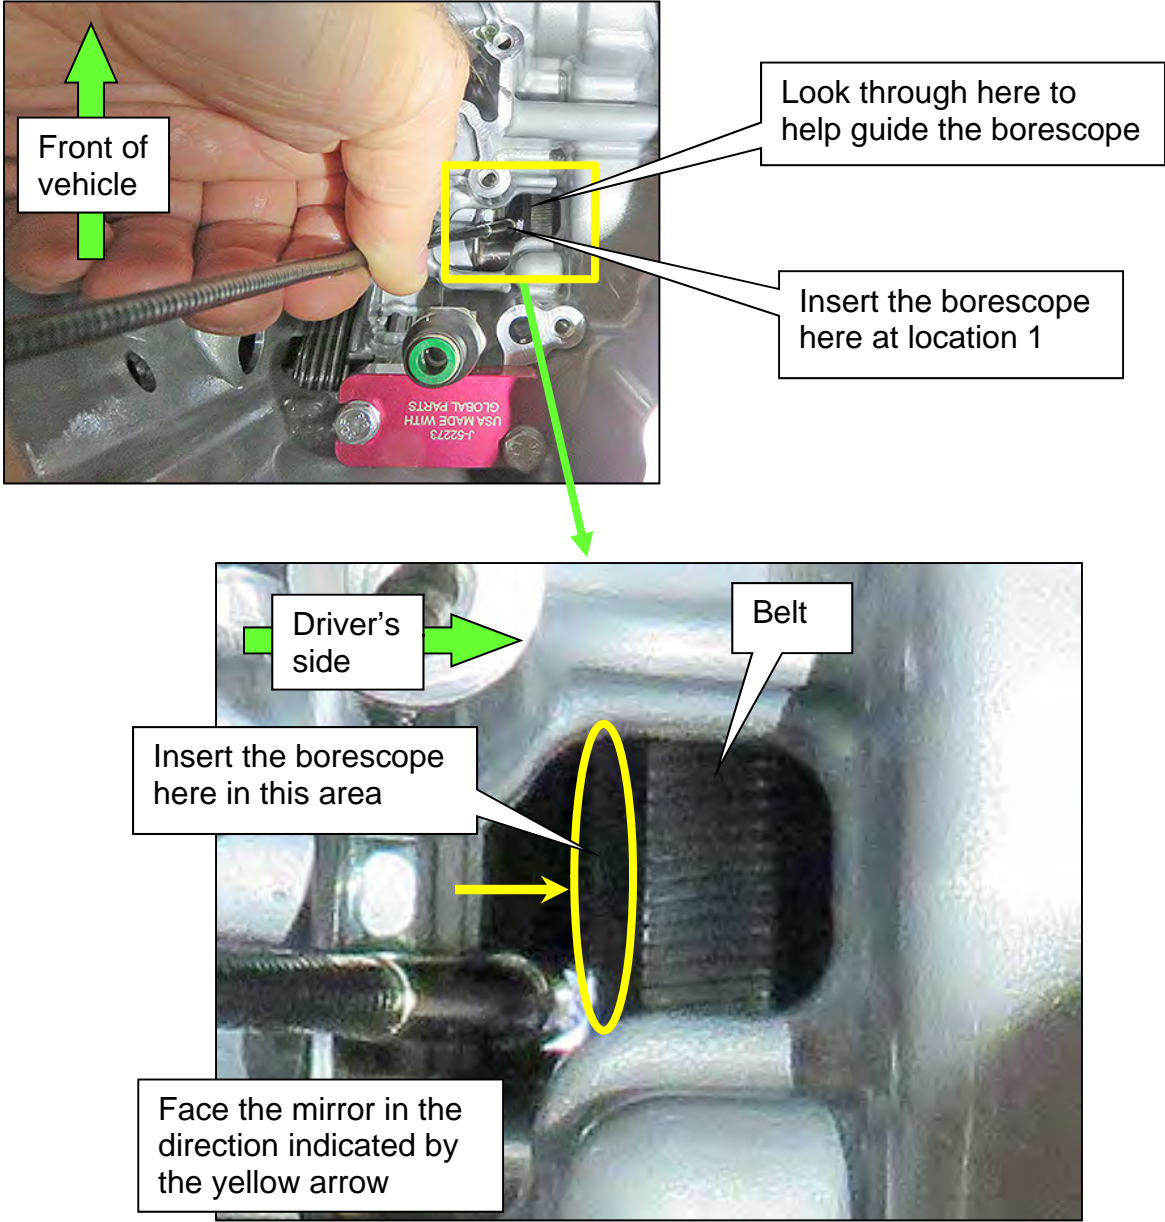

Figure 11
- 18. Insert the borescope where shown in Figure 11 as follows: